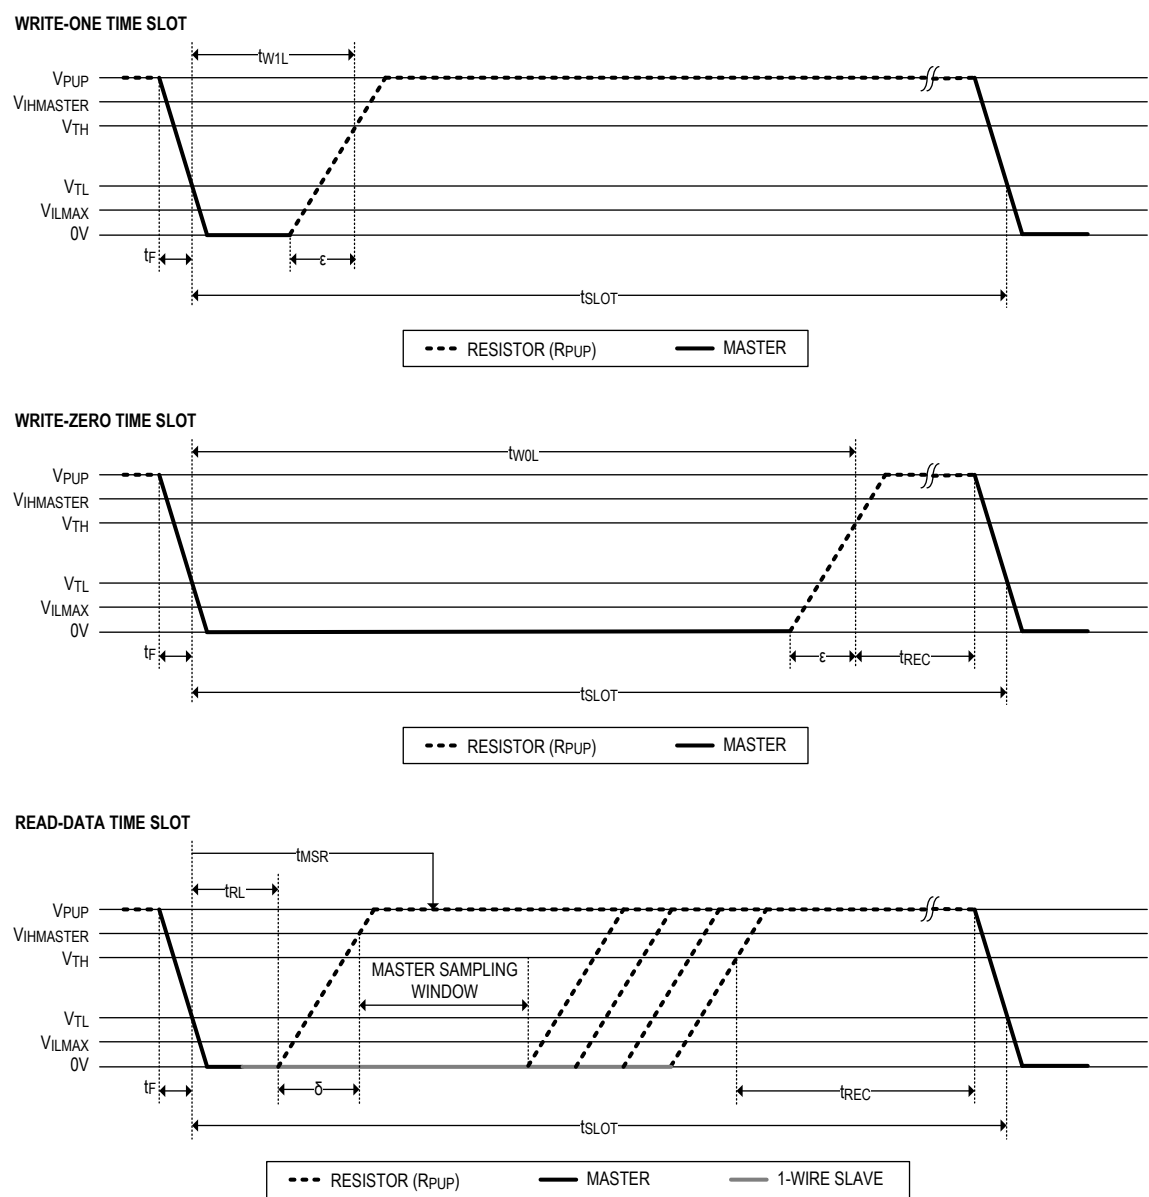

Figure 4. Read/Write Timing Diagrams
- Note 17:**  $\epsilon$  in Figure 4 represents the time required for the pullup circuitry to pull the voltage on IO up from  $V_{IL}$  to  $V_{TH}$ .
- Note 18:**  $\delta$  in Figure 4 represents the time required for the pullup circuitry to pull the voltage on IO up from  $V_{IL}$  to the input-high threshold of the bus master.
Data communication with the DS28E84 takes place in time slots that carry a single bit each. Write time slots transport data from bus master to slave. Read time slots transfer data from slave to master. Figure 4 illustrates the definitions of the write and read time slots.